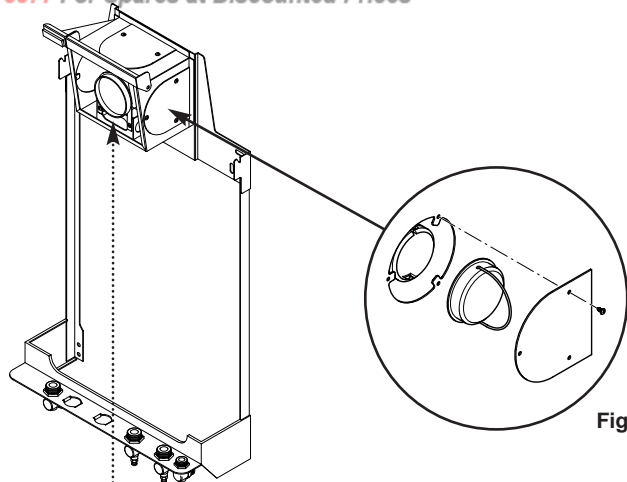
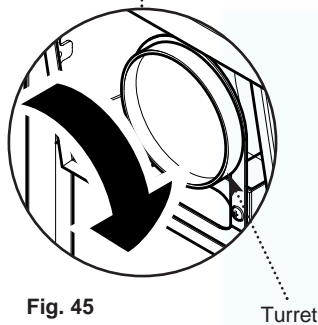

Fig. 46
Fig. 45
1. Remove the left or right hand air box blanking plate, as appropriate, from the back plate air box by releasing the three screws (Fig 46).
2. Rotate the turret to face the selected opening (Fig. 45) and remove the side blanking cap by pushing in and turning anti-clockwise to release the bayonet fitting (Fig. 46).